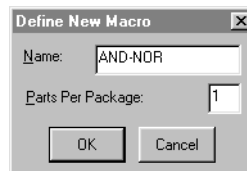

Figure 17.4. The name you enter here is used later to select the device from the library.
- 2 Choose **Macros > New Macro** (or click the **Macro** button on the Toolbar) to display the Define New Macro dialog box shown in Figure 17.4.